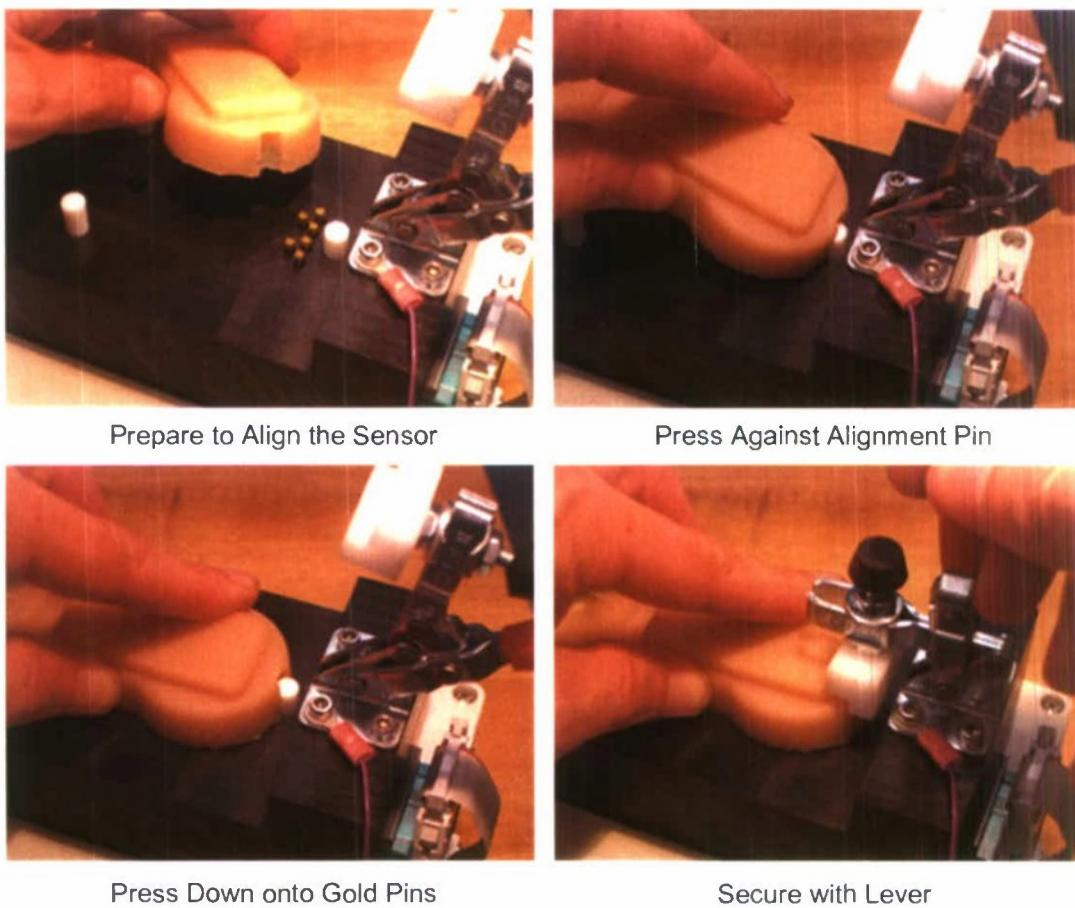

Figure 10. Steps for Placing the DHMS Sensor in the Dock
3. Align the Sensor with the Alignment Pin. Place the sensor over the dock and align the concave notch in the end of the sensor with the plastic alignment pin protruding from the top of the dock (see Figure 10).
4. Press the Sensor Down into Place. Once aligned, press the sensor down into place on the dock so that the pins are compressed (see Figure 10).
5. Lower the Lever. Secure the sensor into place using the lever on the dock. Align the plastic block on the lever with the stepped surface on the end of the sensor. The fit should be snug (see Figure 10).